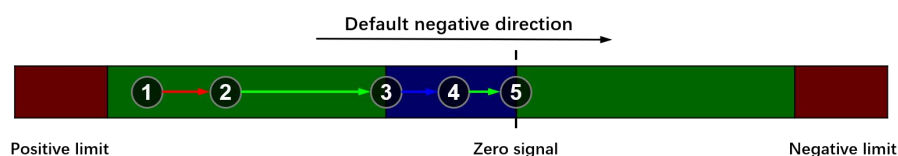

Figure 15.15.2
- Near-point signal mode, as show in Figure 15.15.2: